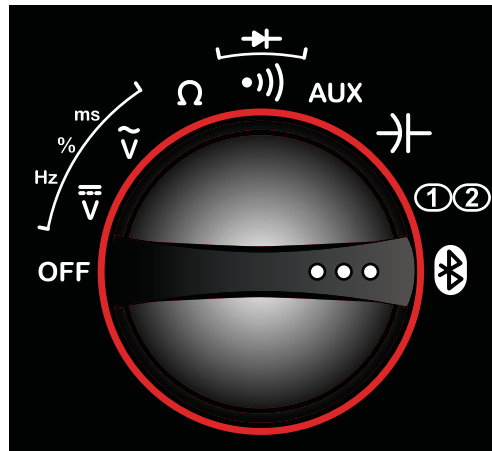

Figure 8-18 Sample remote functions selected
5. With the Bluetooth Discovery active, turn the M2 Rotary Switch to the Remote Functions position (Figure 8-18).